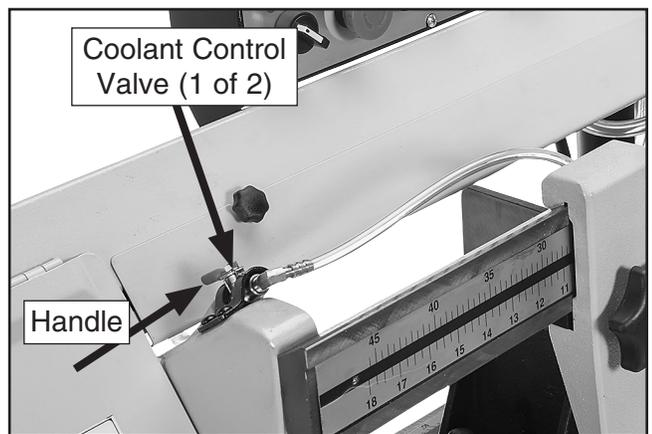

Figure 14. Coolant control valve open.
13. Open both coolant valves by turning handles so they are parallel with valve (see **Figure 14**).